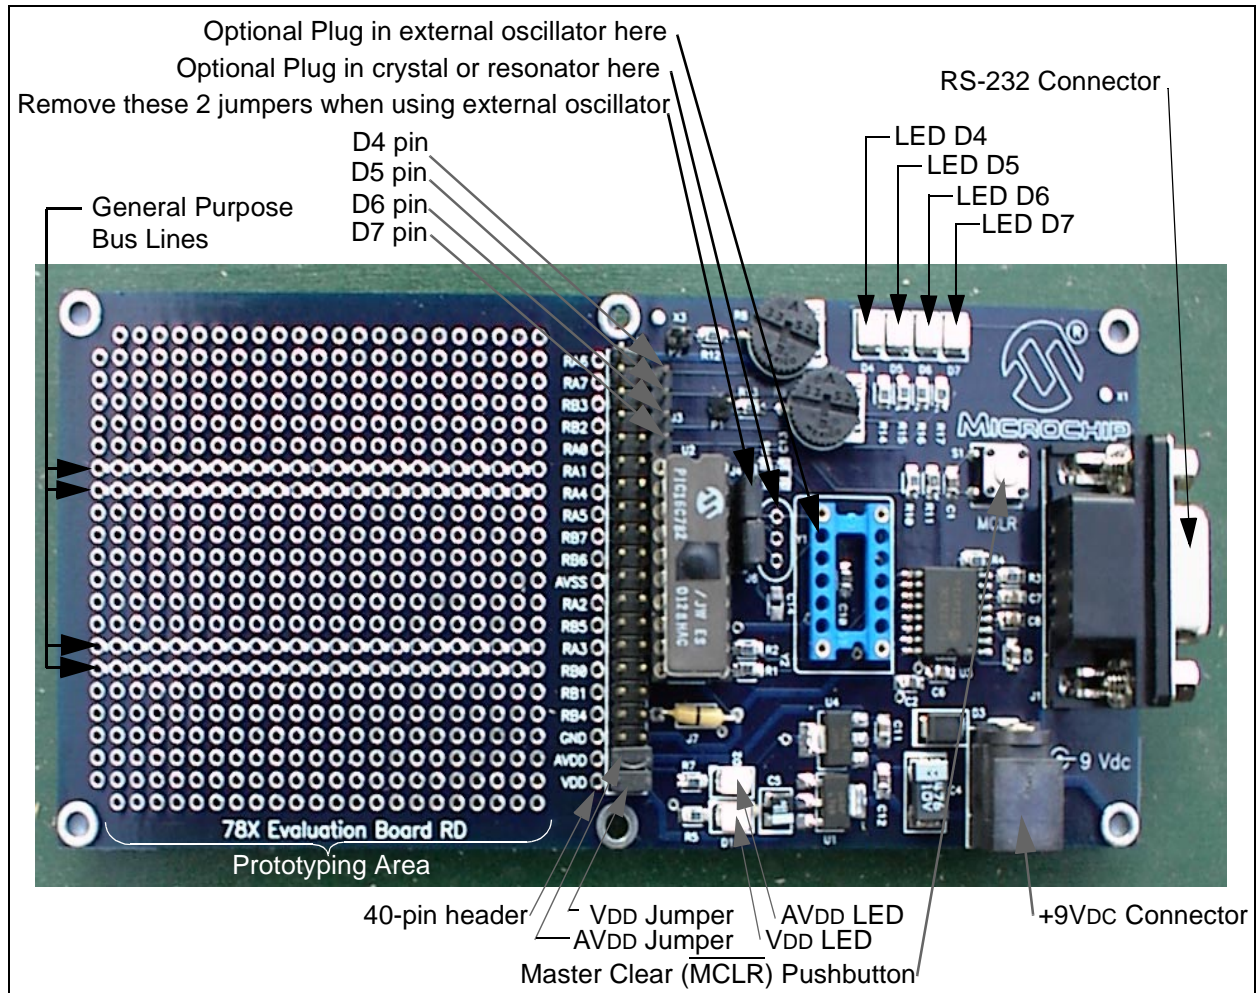

Figure A.2: Parts Placement Diagram
- A generous prototyping area (see Figure A.2).
Note: There are four General Purpose Bus Lines provided in the Prototyping Area for distributing signals across the area (see Figure A.2).